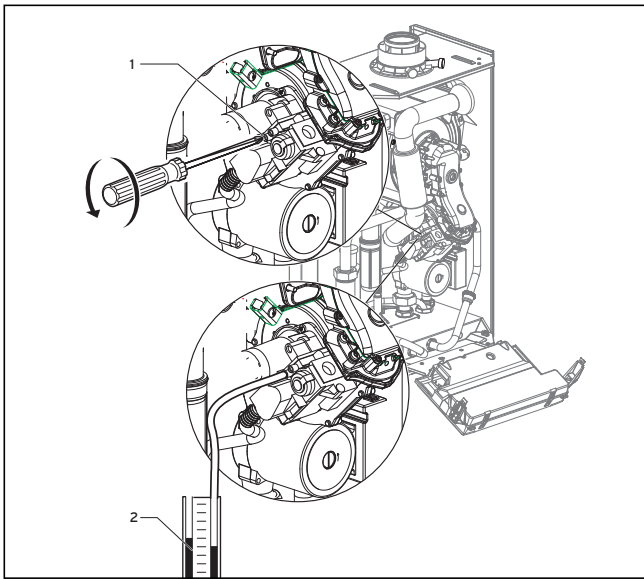

Fig. 5.3 Measuring the connection pressure
To check the connection pressure, proceed as follows (cf. fig. 5.3):
- Remove the pressure gauge and screw the seal plug (1, fig. 5.3) back on.